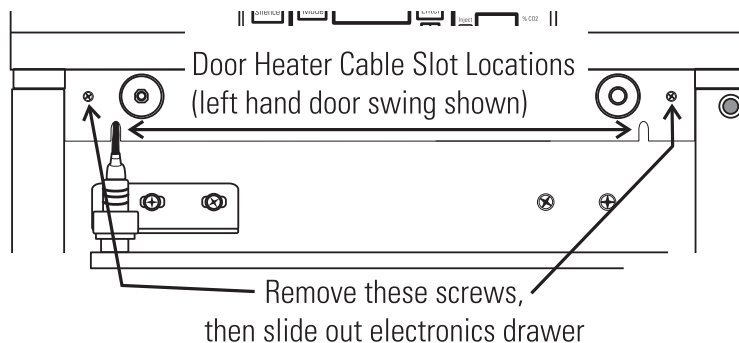

Figure 5-5. Screw Locations
2. Remove two screws as shown. See Figure 5-5.
1. When the fuse has been replaced, slide the electronics drawer back in, being very careful to place the door heater cable back into the provided slot so that the drawer does not pinch the cable (Figure 5-5).